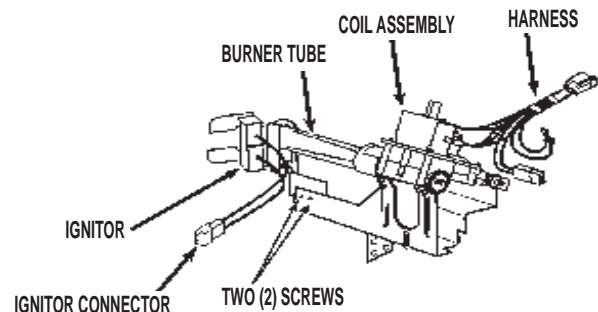

FIGURE 1
5. Disconnect ignitor wires from harness and then remove the burner tube by removing the two (2) screws securing it to the burner base. See *Figure 1*.